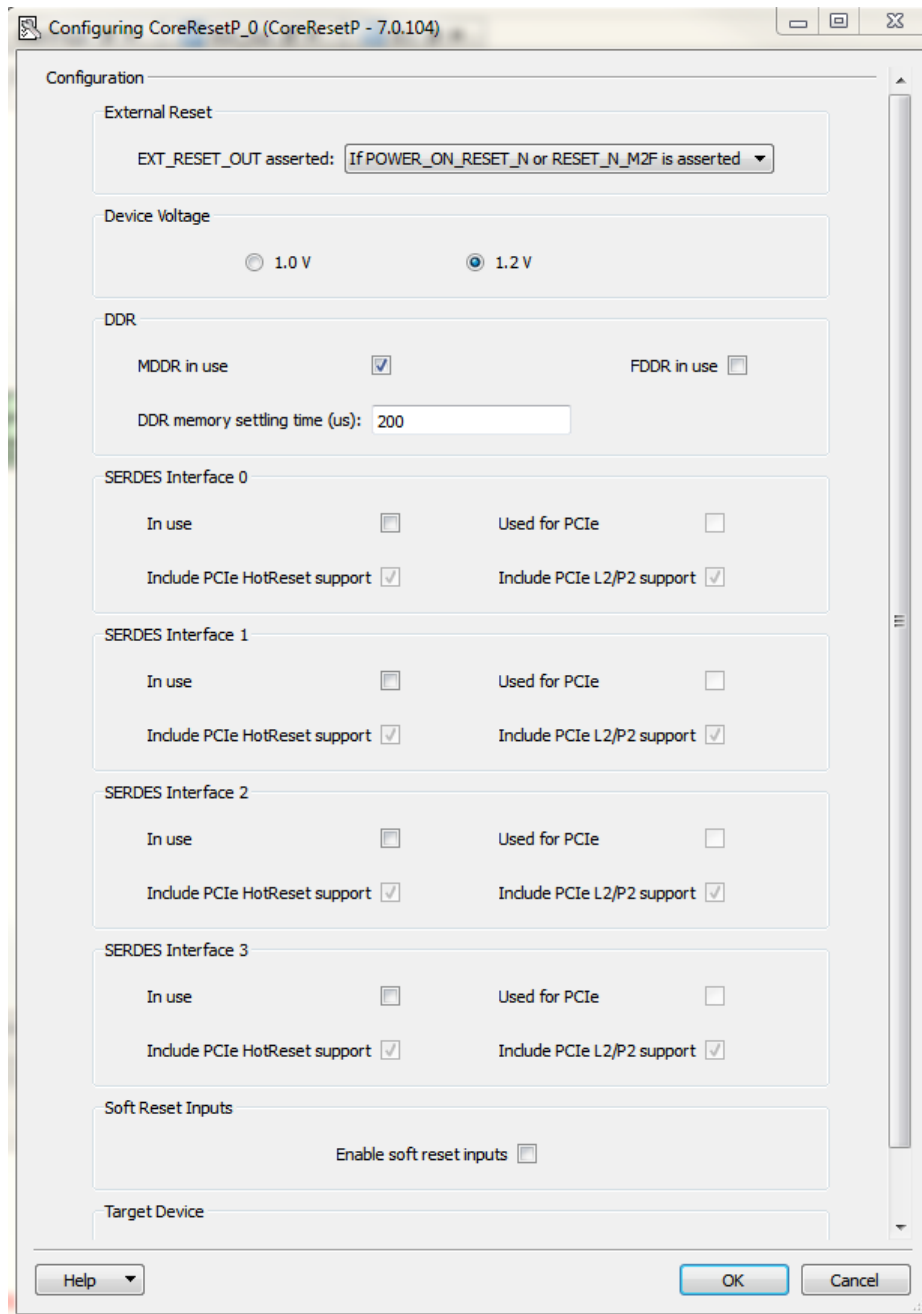

Figure 12. CoreResetP Configurator
2. Double-click the core inside the SmartDesign Canvas to open the Configurator (Figure 12– CoreResetP Configurator)